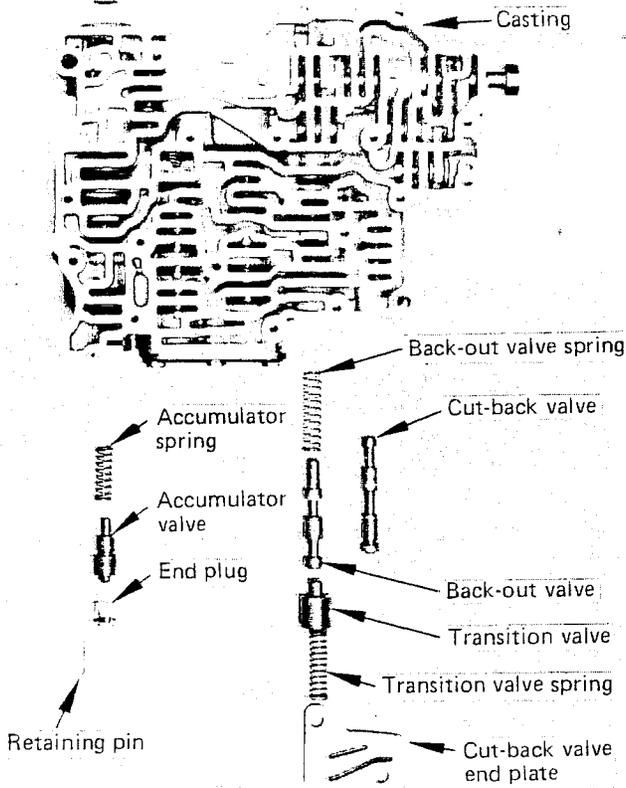

FIGURE 6 (PINTO ONLY)
STEP 8. Remove the accumulator valve end plug. (See Fig. 6 or 6A) This plug is held in by a retaining pin. Push in on the plug to allow the pin to fall out. There is a spring underneath that will push the plug out. Remove the plug and the intermediate servo accumulator valve and spring. Now reinstall